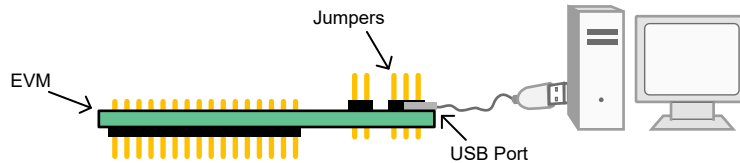

Figure 2-3. Hardware Setup
| Figure 2-3. Hardware Setup..... | 6 |
The USB connection generates 5 V of power for use as the DAC supply voltage (VDD). The onboard controller generates 3.3 V of power for the input/output (IO) signals generated by the controller. These IO signals are level translated to the VDD voltage of the DAC. Figure 2-3 displays the system hardware setup.